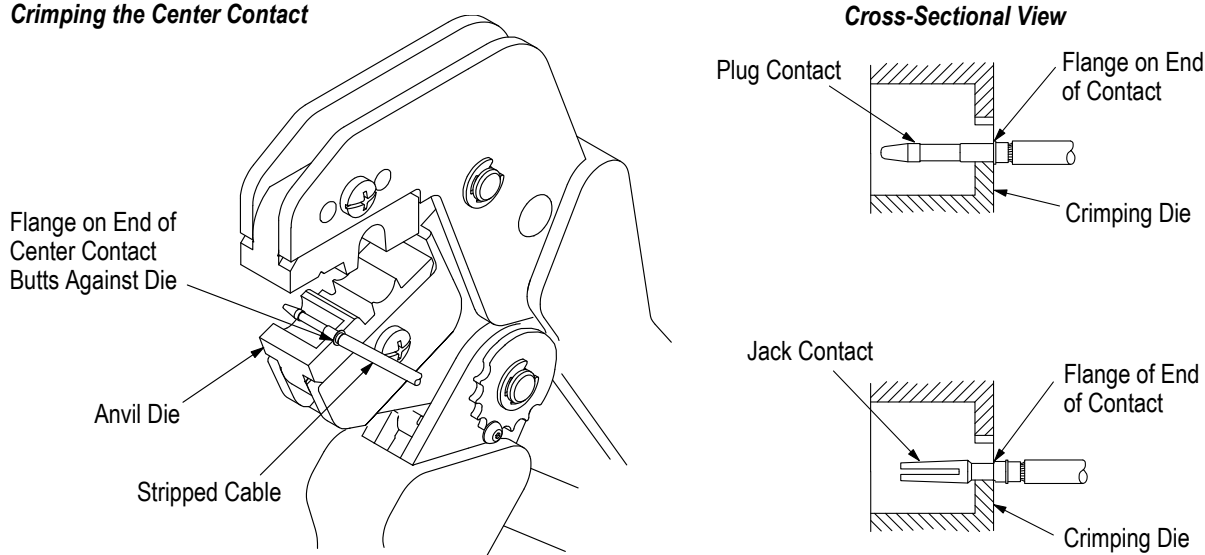

Figure 2
4.1. Center Contact (Figure 2)
2. Slide center contact onto center conductor of cable; then insert contact assembly into the center contact crimping chamber of the anvil die. See Figure 2.
Make sure that the flange on the end of the center contact butts against the edge of the die. See Figure 2.